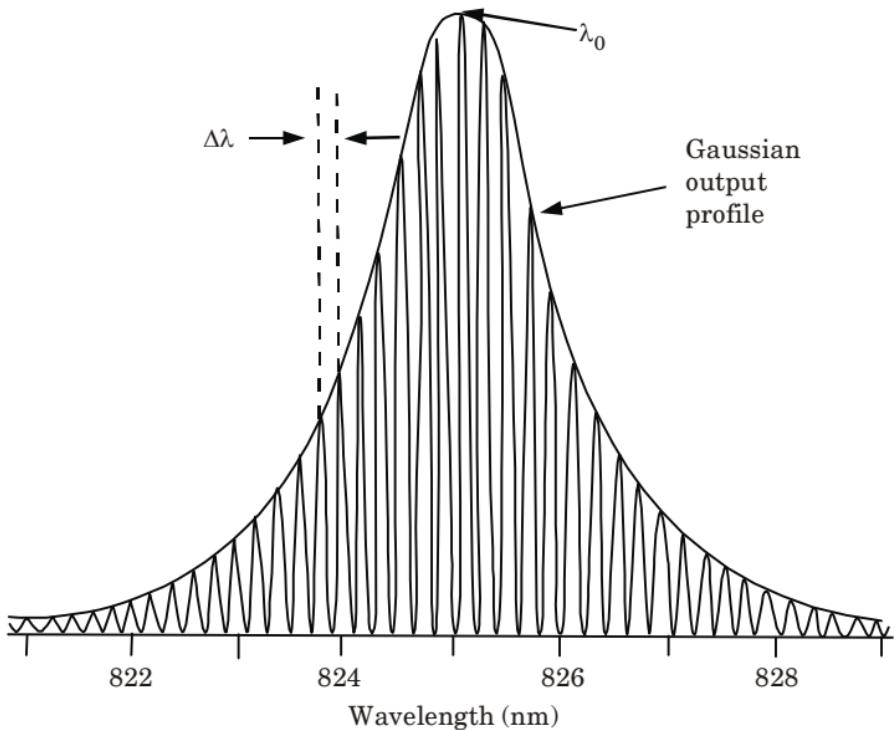

Fig. 3.16.1. Typical spectrum from a Fabry–Perot GaA/As / GaAs Laser diode.
7. The output spectrum of a multimode laser follows the typical gain versus frequency plot given in Fig. 3.16.1 where the exact number of modes, their heights, and their spacing depend on the laser construction.